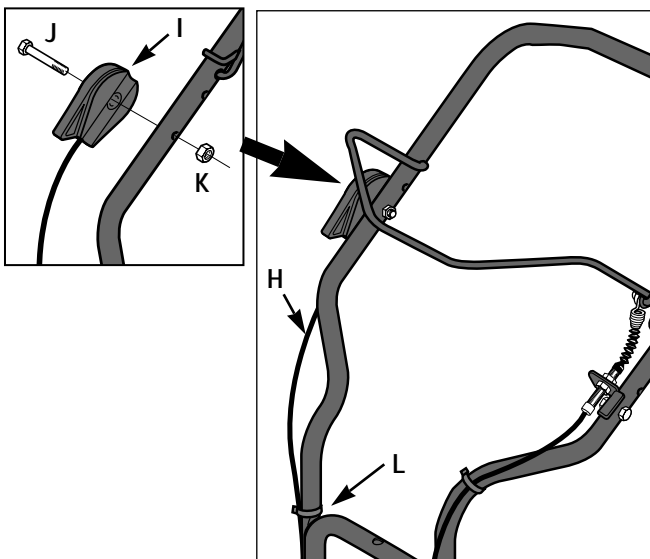

Figure 2-3: Attach throttle lever to right-side handlebar.
1. The throttle control cable (H, Figure 2-3) is attached to the engine. Gently unwind the cable and position the Throttle Control Lever (I) on the outside of the right handlebar, next to the throttle control decal.
2. Attach the lever with a 1/4-20 x 2 hex hd. screw (J, Figure 2-3) and 1/4-20 hex locknut (K).
3. Use a cable tie (L, Figure 2-3) to secure the cable to the handlebar, as shown.